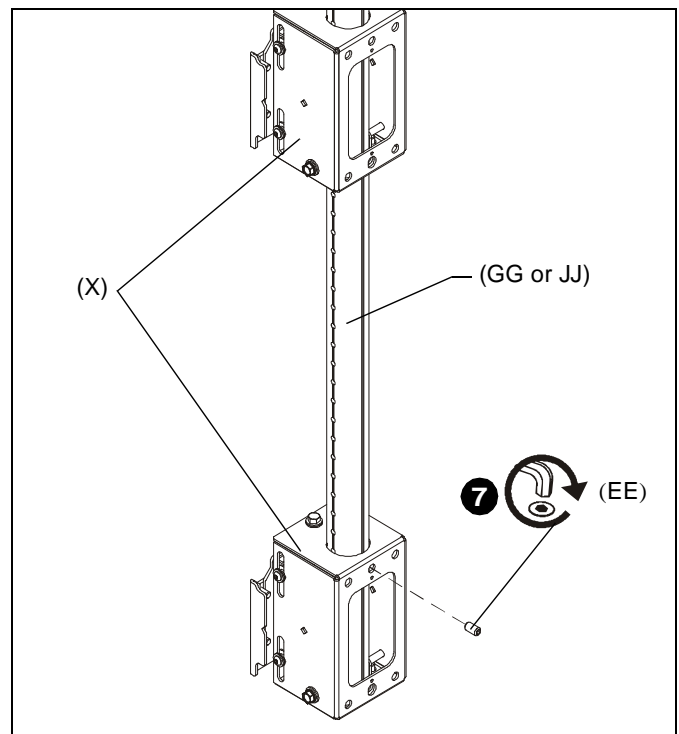

Figure 8
7. Fasten one 5/16-18 x 3/4" set screw (EE) into top center hole of array head. (See Figure 8)
8. Repeat for each remaining array head. (See Figure 8)